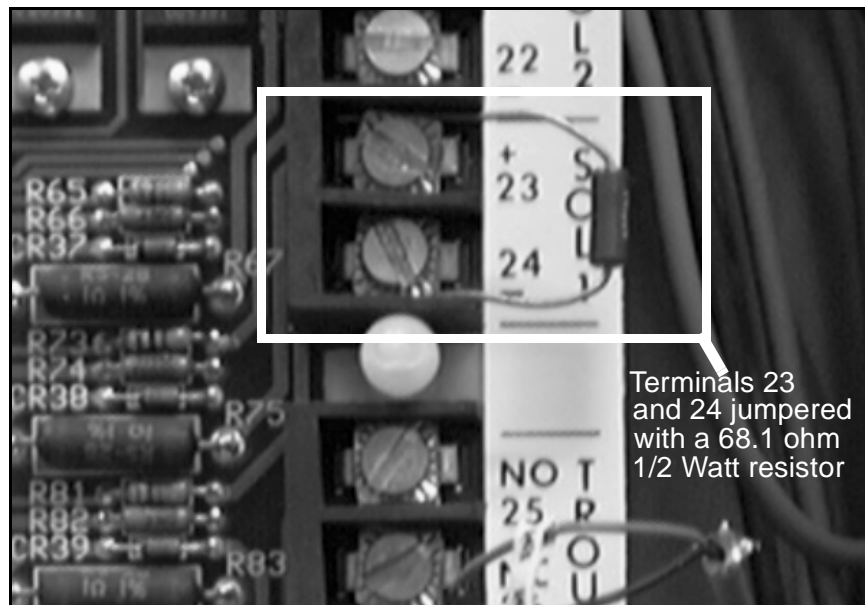

Figure 2 Mico 1-EV Control Panel Jumper
7. Inside the Micro 1-EV control panel, disconnect, isolate and tie back the two solenoid leads on terminals 23 and 24, which are labeled SOL 1. (See Figure 2.)
8. Install the 68.1 ohm, ½ watt resistor (5905-01-178-8949) across terminals 23 and 24. (See Figure 2.)